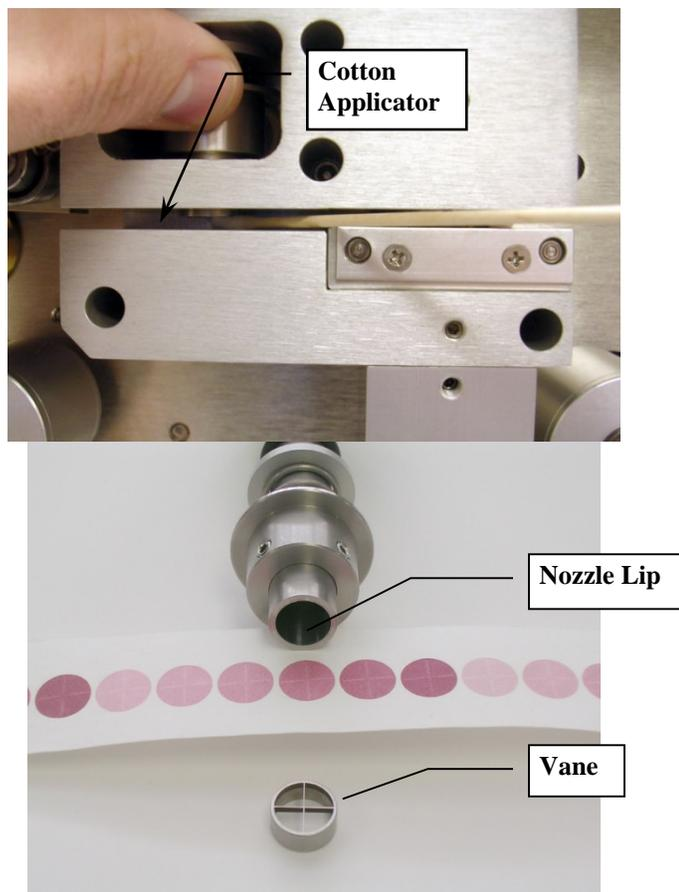

Figure 3 Nozzle Cleaning
The nozzle and vane (located under the nozzle) must be cleaned regularly to prevent leaks and measurement errors. The cleaning must be done at least once every 30 days and each time the filter tape is changed. Some sites may require more frequent cleaning as determined by visual inspection of the filter spots that have previously collected sample (See Figures 3 and 4). Use the following steps to clean the parts. **Remember to "Down" the channel before any maintenance activities are performed.**
7. Use your fingers to rotate the nozzle while keeping the swab in place. A few rotations should clean the nozzle lip. (See Figure 3);